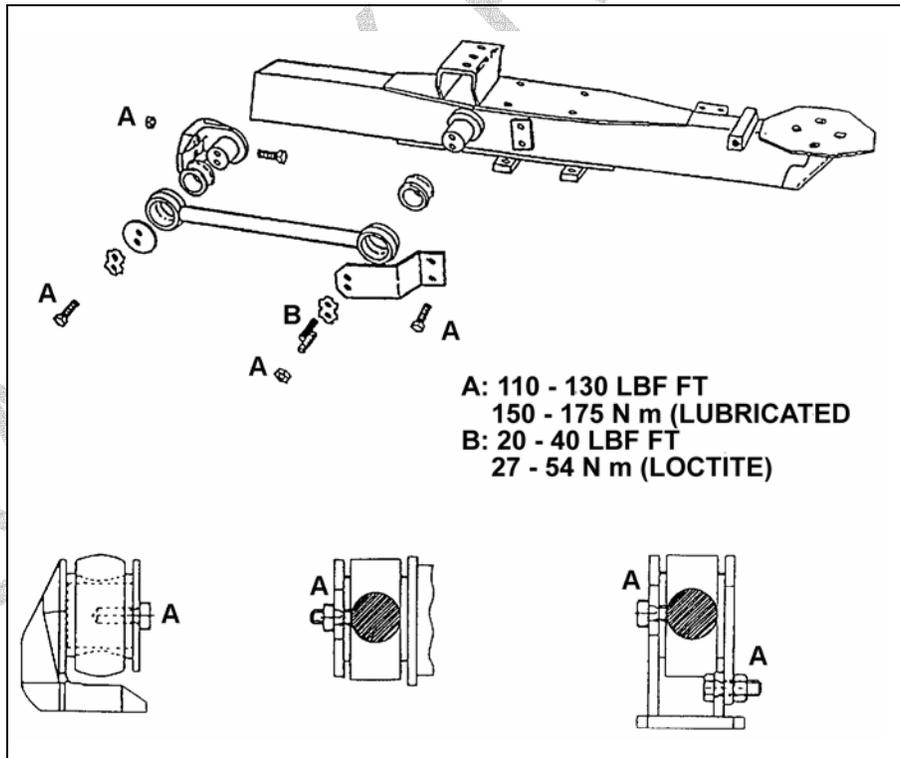

FIGURE 7: RADIUS ROD
20. Reinstall radius rods using recommended torques (refer to fig. 7).